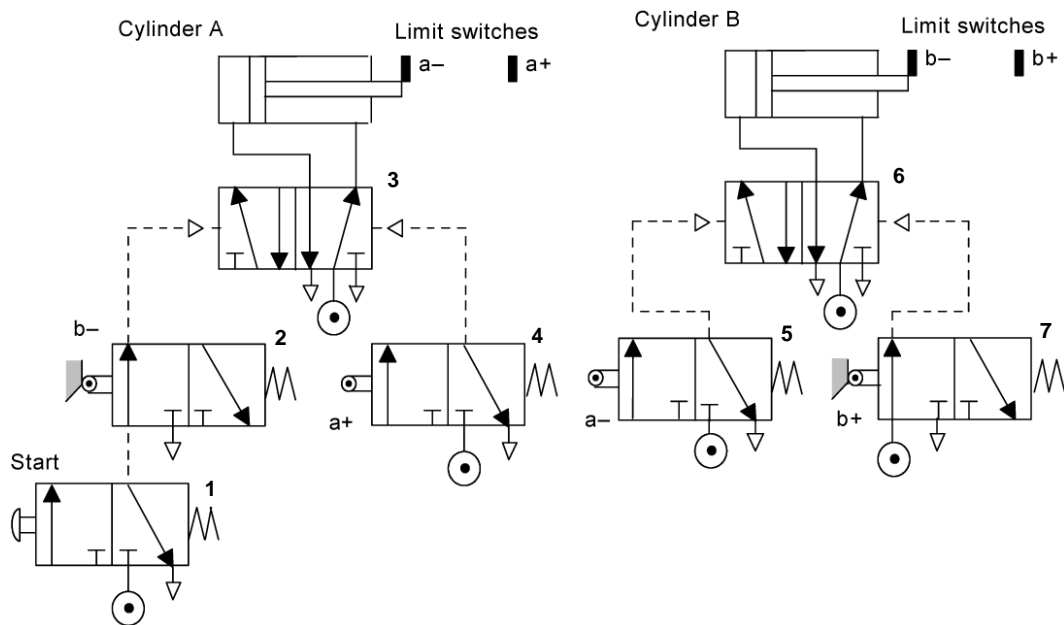

Figure Q1[c]
- [c] For the pneumatic circuit shown in Figure Q1[c], what is the sequence of operations when the start push-button is pressed? Explain the sequence of operations. a-, a+, b-, and b+ are limit switches to detect when the cylinders are fully retracted and fully extended.